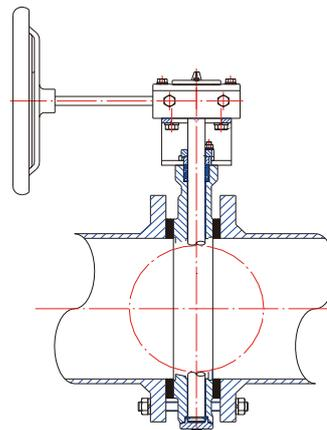

Fig.4
4.6. Make sure the valve to installed between flanges and concentrically with flanges, thus could prevent the disc damaged by the interfering with flange and pipeline (Fig.4).